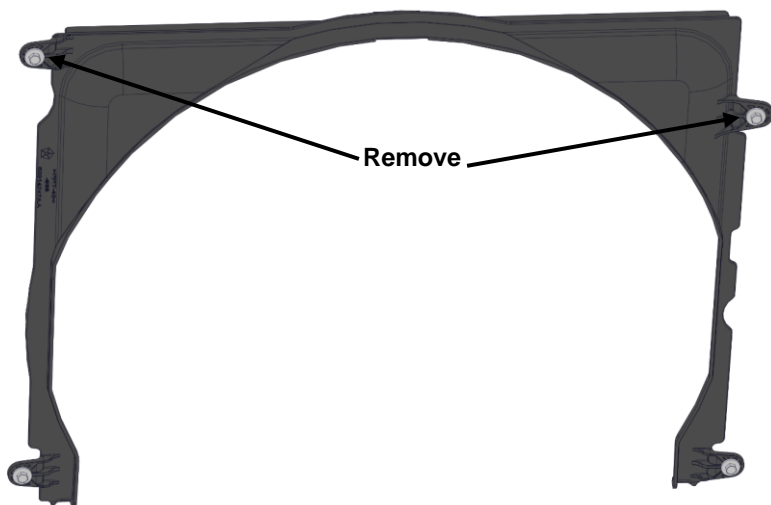

Figure 2.1 – Radiator fan shroud
- Remove the top two bolts from the radiator mounted fan shroud, and insert a protective sheet of cardboard between the radiator and the radiator fan (Figure 2.1).